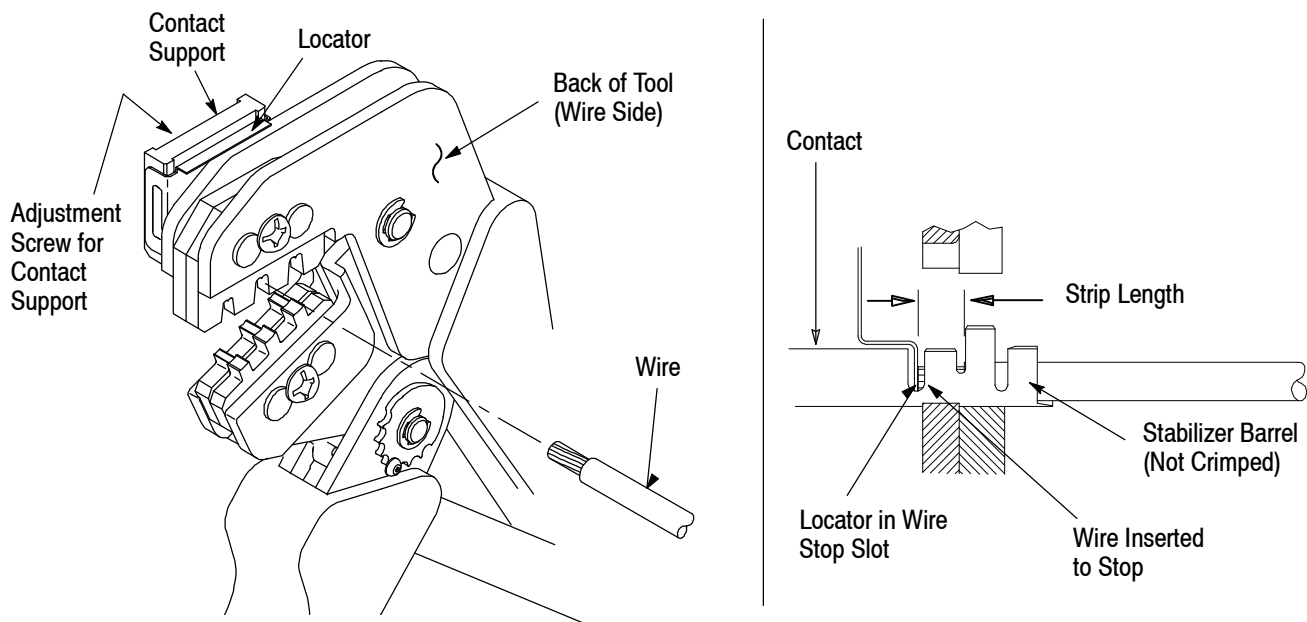

Figure 3
### 4. CONTACT SUPPORT ADJUSTMENT (Figure 3)
Refer to the table in Figure 1 and select wire of the specified size and insulation diameter. Strip the wire to the length indicated in Figure 1, taking care not to nick or cut wire strands. Select an applicable contact and identify the appropriate crimp section according to the wire size markings on the tool. Refer to Figure 3 and proceed as follows:
3. Position the contact so that the mating end of the contact is on the locator side of the tool, and so that the open “U” of the wire and insulation barrels must face the top of the tool. Place the contact up into the nest so that the movable locator drops into the slot in the contact. Refer to Figure 3. Butt the front end of the wire barrel against the movable locator.
5. Insert stripped wire into contact insulation and wire barrels until it is butted against the wire stop, as shown in Figure 3.
**NOTE** The crimped contact may stick in the crimping area, but the contact can be easily removed by pushing downward on the top of the locator (see Figure 3).
- Added product stabilizer barrel to Figure 3